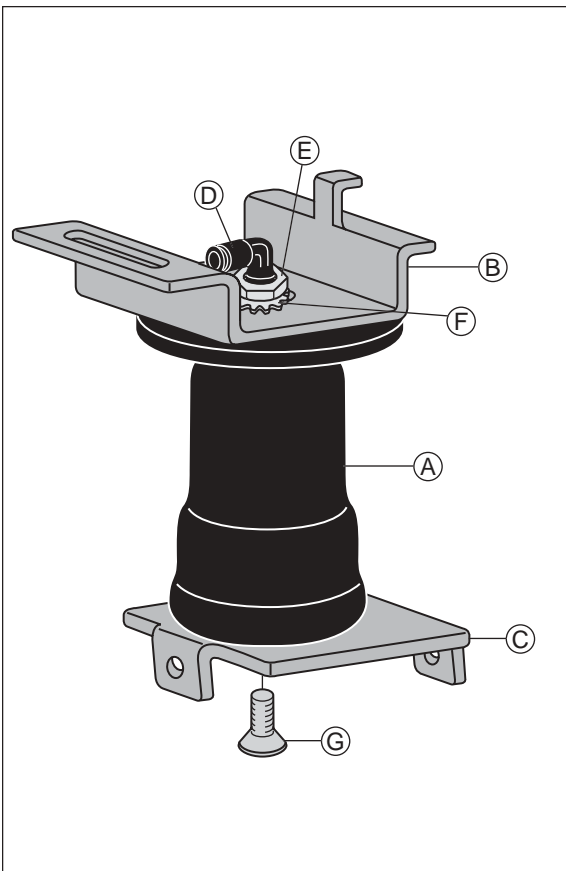

Figure 2
1. Install the elbow fitting (D) to the top of the air spring (A) finger tight plus 1 1/2 turns. Be careful to only tighten on the metal hex nut only (Figure 2).
2. Set the upper bracket (B) over the elbow fitting on the air spring and onto the threaded post.
3. Install 3/4" star washer (F) and nylon nut (E) onto the threaded post (Figure 2). Tighten finger tight only.
4. Attach the lower bracket (C) to the assembly using the flat head screw (G). Refer to Figure 2. Tighten to 15 ft-lbs.